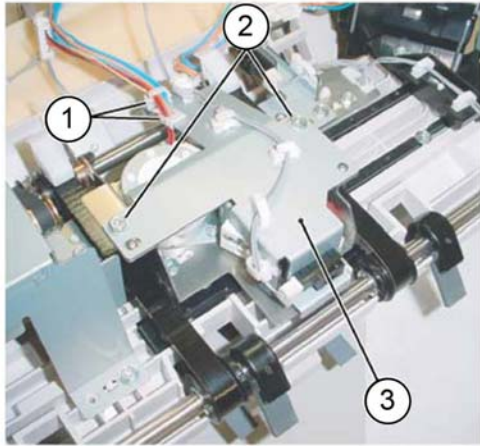

Figure 4 Bracket assembly removal
9. Remove the bracket assembly, Figure 4:
- a. Release the harness from both clamps (1).
- b. Remove two screws (2).
- c. Remove the bracket assembly (3).